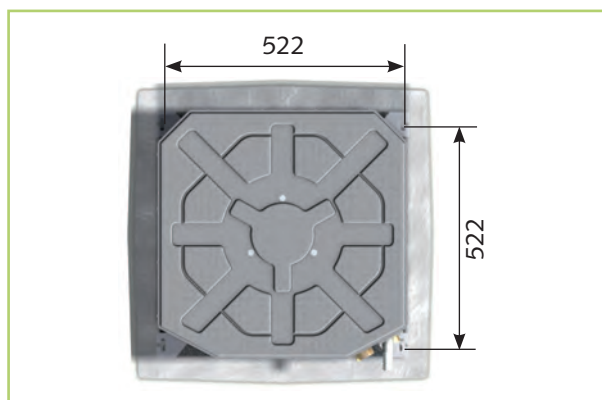

Fig. 26: Unit attachment (MXD 202-522)
1. Use the dimensions of the ceiling cassette to mark the fixing points for the threaded rods on structural parts approved to support the static load, and above the suspended ceiling. (Fig. 26).